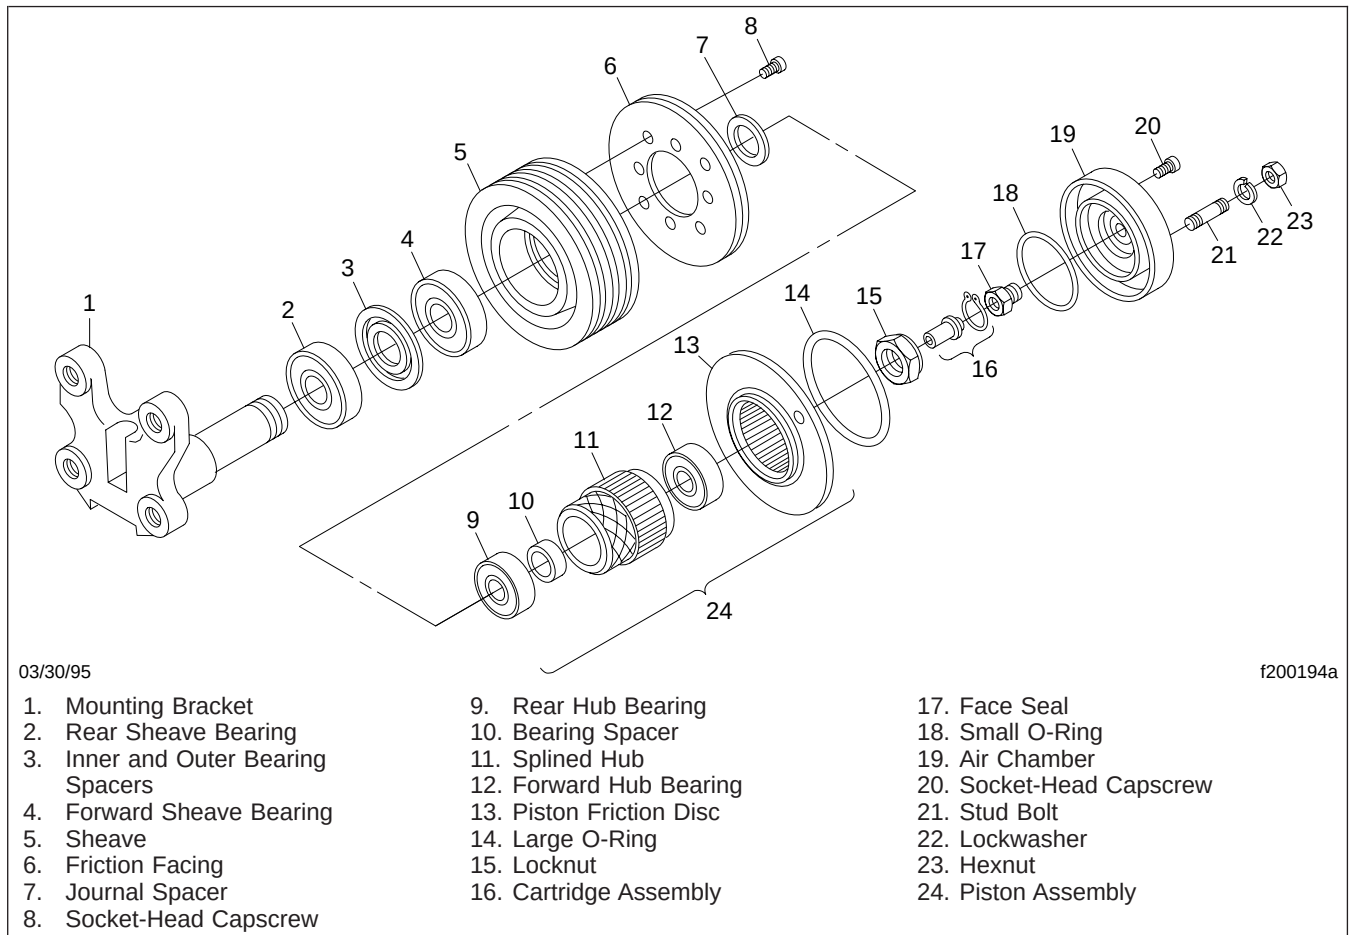

Fig. 7, Horton Advantage Fan Clutch Components
- 9.1 Check for a leak at the bleed hole on the fan pilot. Air leakage means that the cartridge assembly (**Fig. 7**, Ref. 16) or face seal (Ref. 17) is damaged.